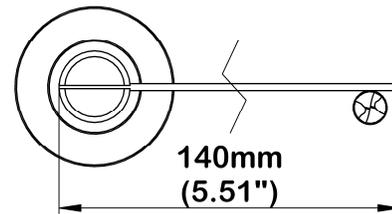

Figure 3: Needle length
b) You may keep the standard Needle length (as shown in Figure 3), shorten the Needle, or purchase a longer Needle (up to 8").